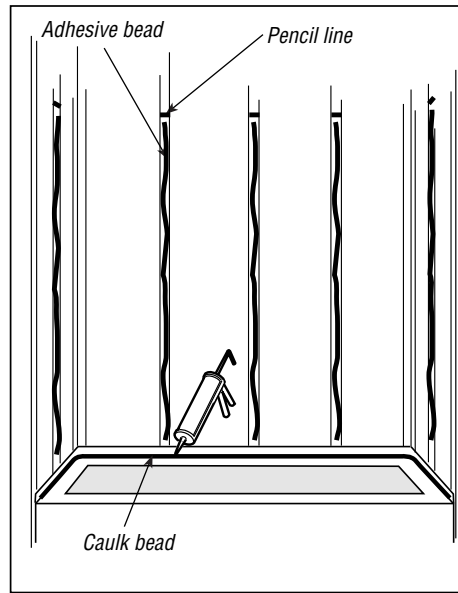

Figure 3
- 4** When satisfied with fit, mark the top of the panels on each stud. Remove the panels. Apply a bead of adhesive down each stud that will come in contact with the back panel being sure to stay below the line you marked. You do not need to apply adhesive to the corner studs. Lay a bead of latex/acrylic caulk along base ledge (*Figure 3*). Reposition back panel and press firmly in alcove against studs.